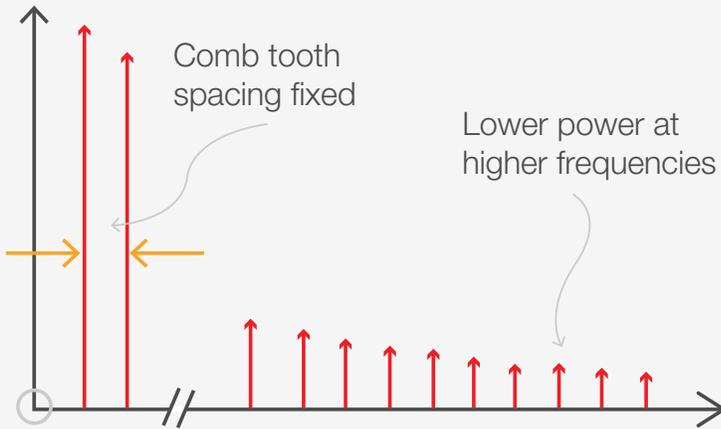
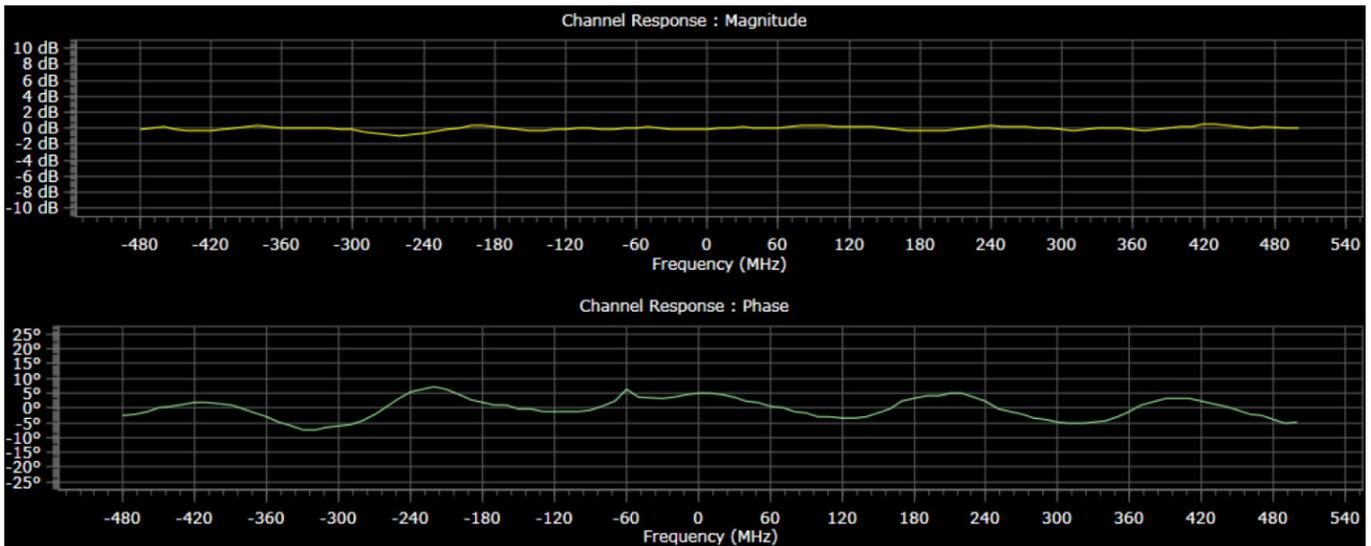

Figure 14. The comb generator produces CW tones of known amplitude and phase
Figure 15. Measured frequency responses of a test network
Another calibration tactic is using a comb generator. The comb generator is a universal receiver system calibrator easily injected at the desired calibration plane (the input of the test network). It generates continue wave (CW) tones of known amplitude and phase, as shown in Figure 14. A signal analyzer measures each tone's amplitude and phase at the output of the test network and compares them to the known amplitude and phase. Figure 15 shows a channel response of magnitudes and phases of a test network.